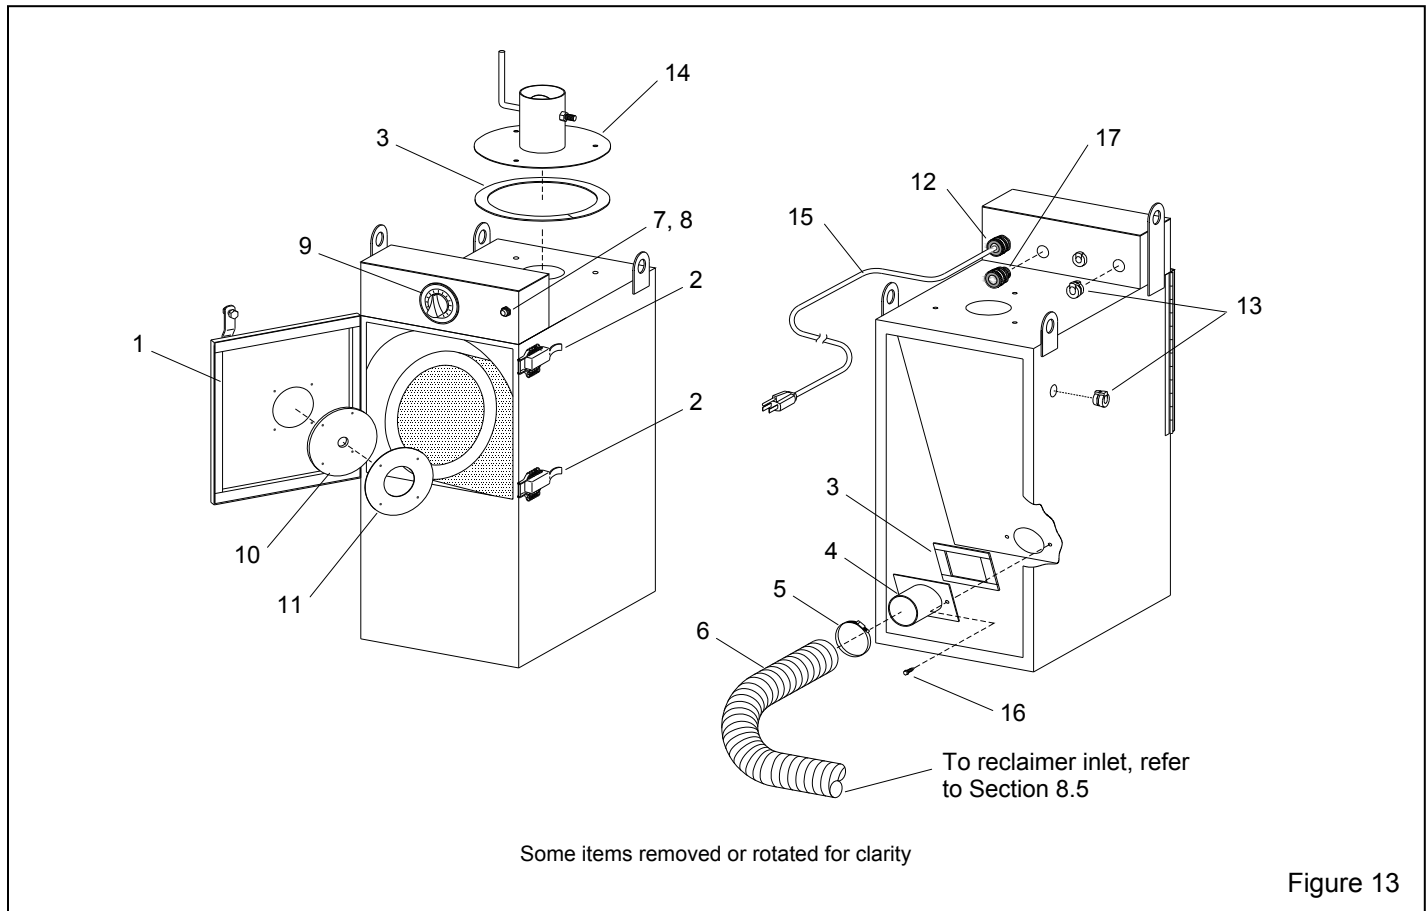

Figure 13
8.2 Cabinet and Exhauster Assembly, Figure 13